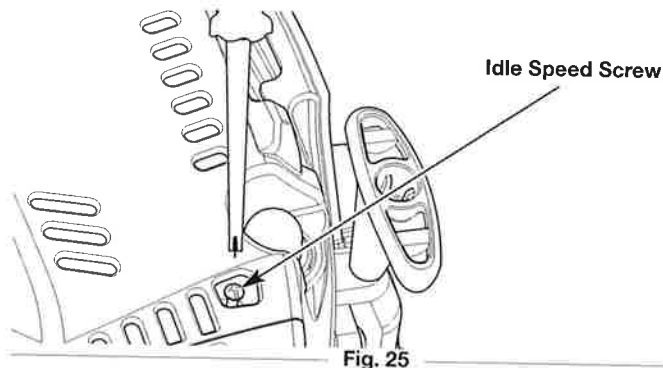

Fig. 25
- If the engine stops, use a small Phillips screwdriver to turn the idle speed screw clockwise, 1/8 of a turn at a time (as needed) until the engine idles smoothly (Fig. 25).
- If the engine idles too quickly, turn the idle speed screw counterclockwise, 1/8 of a turn at a time (as needed) to reduce the idle speed (Fig. 25).